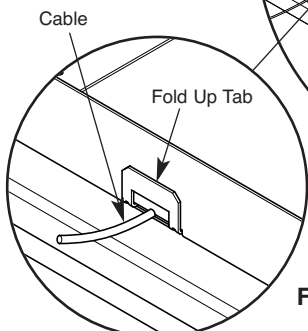

**Fig. 35**
4. Feed the cable through the hole in the top flange of the fire box from the rear (Fig. 35).